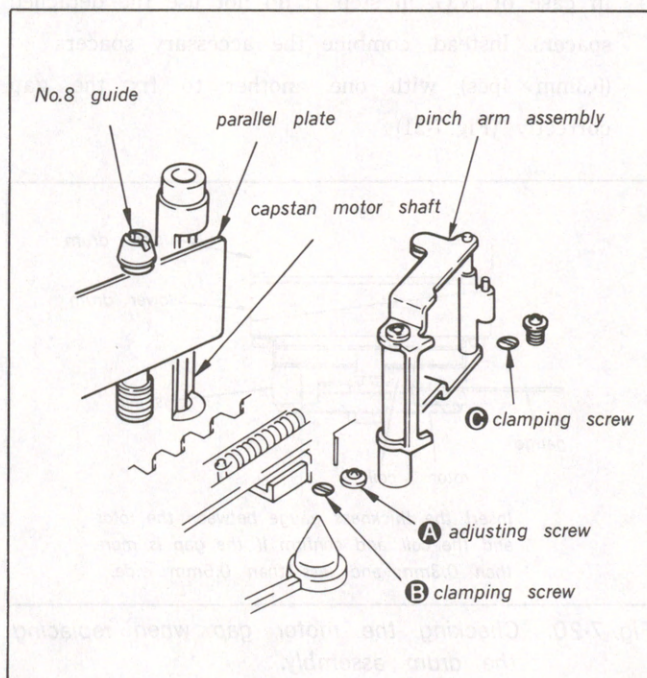

Fig. 7-23.
- 2) As shown in Fig. 7-23. apply the parallel plate (jig Ref. No. J-2) horizontally to the capstan motor shaft and to the No.8 guide sleeve.
- 6) Apply the parallel plate again as shown in Fig. 7-23, and check the verticality of the capstan motor shaft. If it does not stand vertically, repeat the steps 3) to 6).